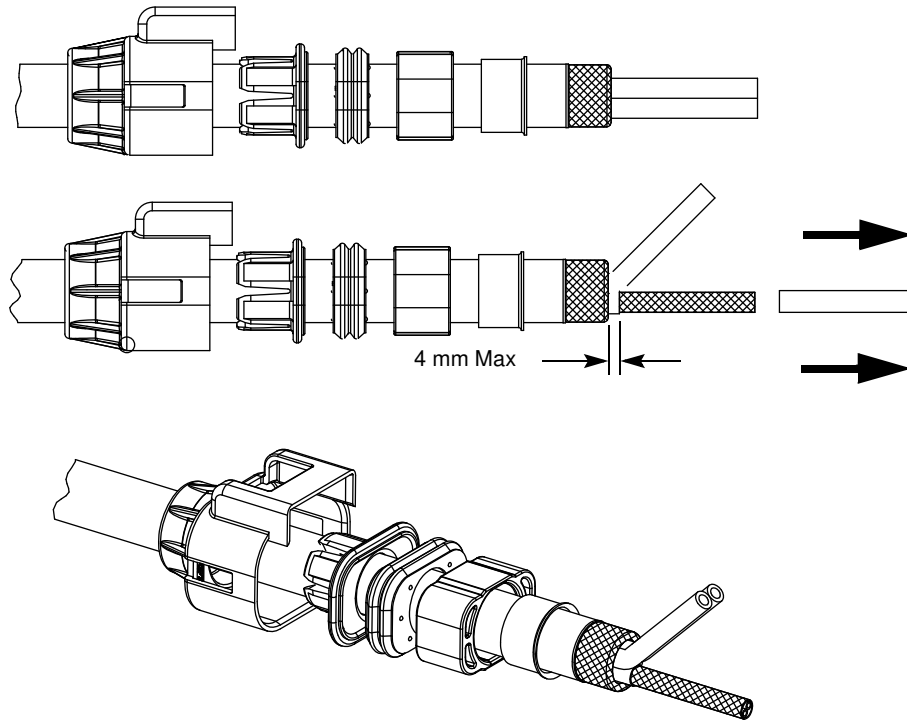

Figure 7
5. If present, strip and remove the HVIL shield jacket and separator from the end, exposing the braided HVIL shield as shown in Figure 7.